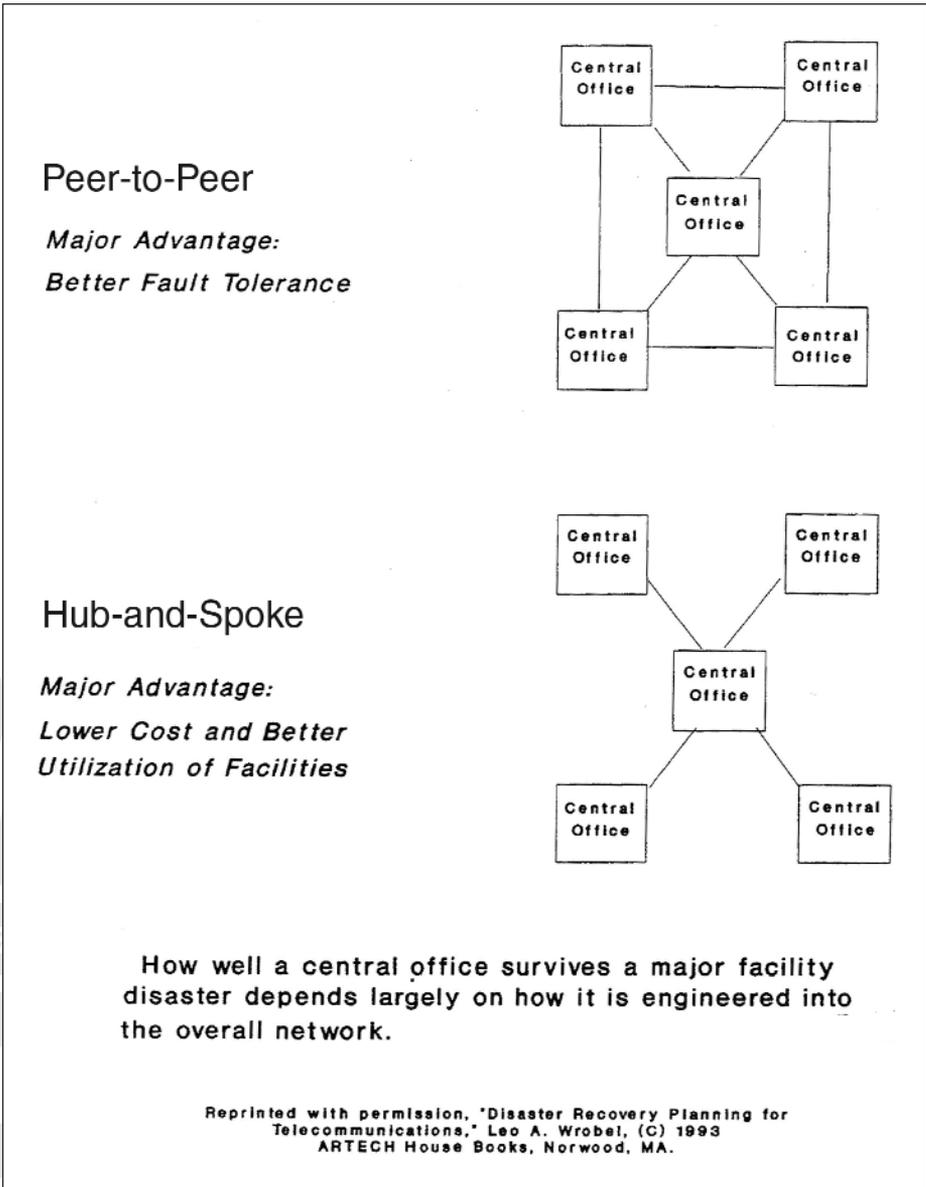

Figure 1: Central Office Hubbing Configurations
4. Try to get an idea of the topology of the entire city’s telephone network. Is it a hub and spoke or peer-to-peer configuration? Hub and spoke is more economical for the telephone company because facilities are better utilized. It is not as reliable however as peer-to-peer, where alternate routes for switching are more likely to exist. (See Figure 1)